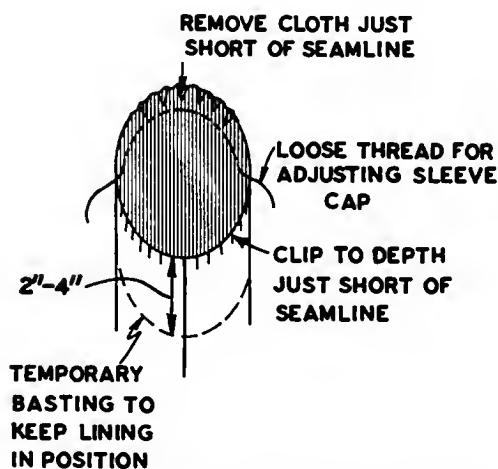

**Fig. 253.** Making the hem.
- 4. Turn back the folded edge  $\frac{1}{4}$  in. and fell underneath through one thickness of the lining to the wool hem. This leaves a tucklike fold with no felling showing (Fig. 253).